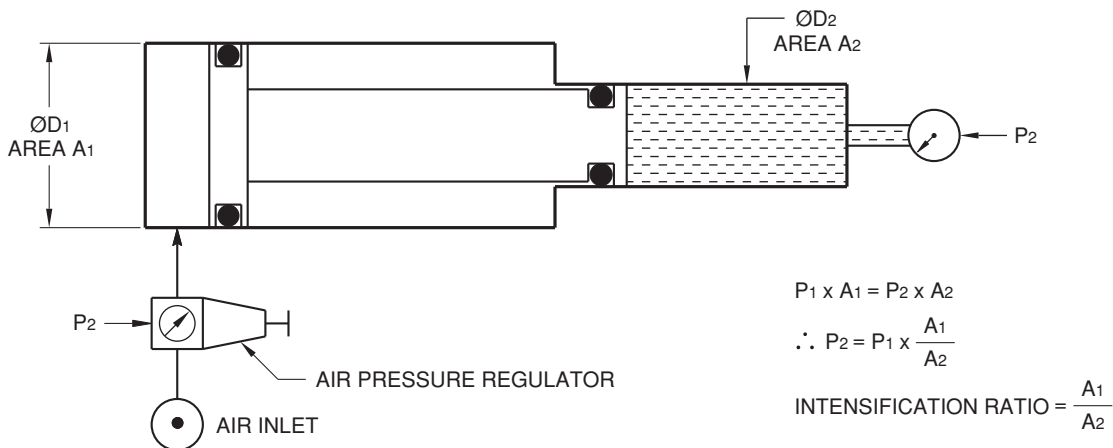
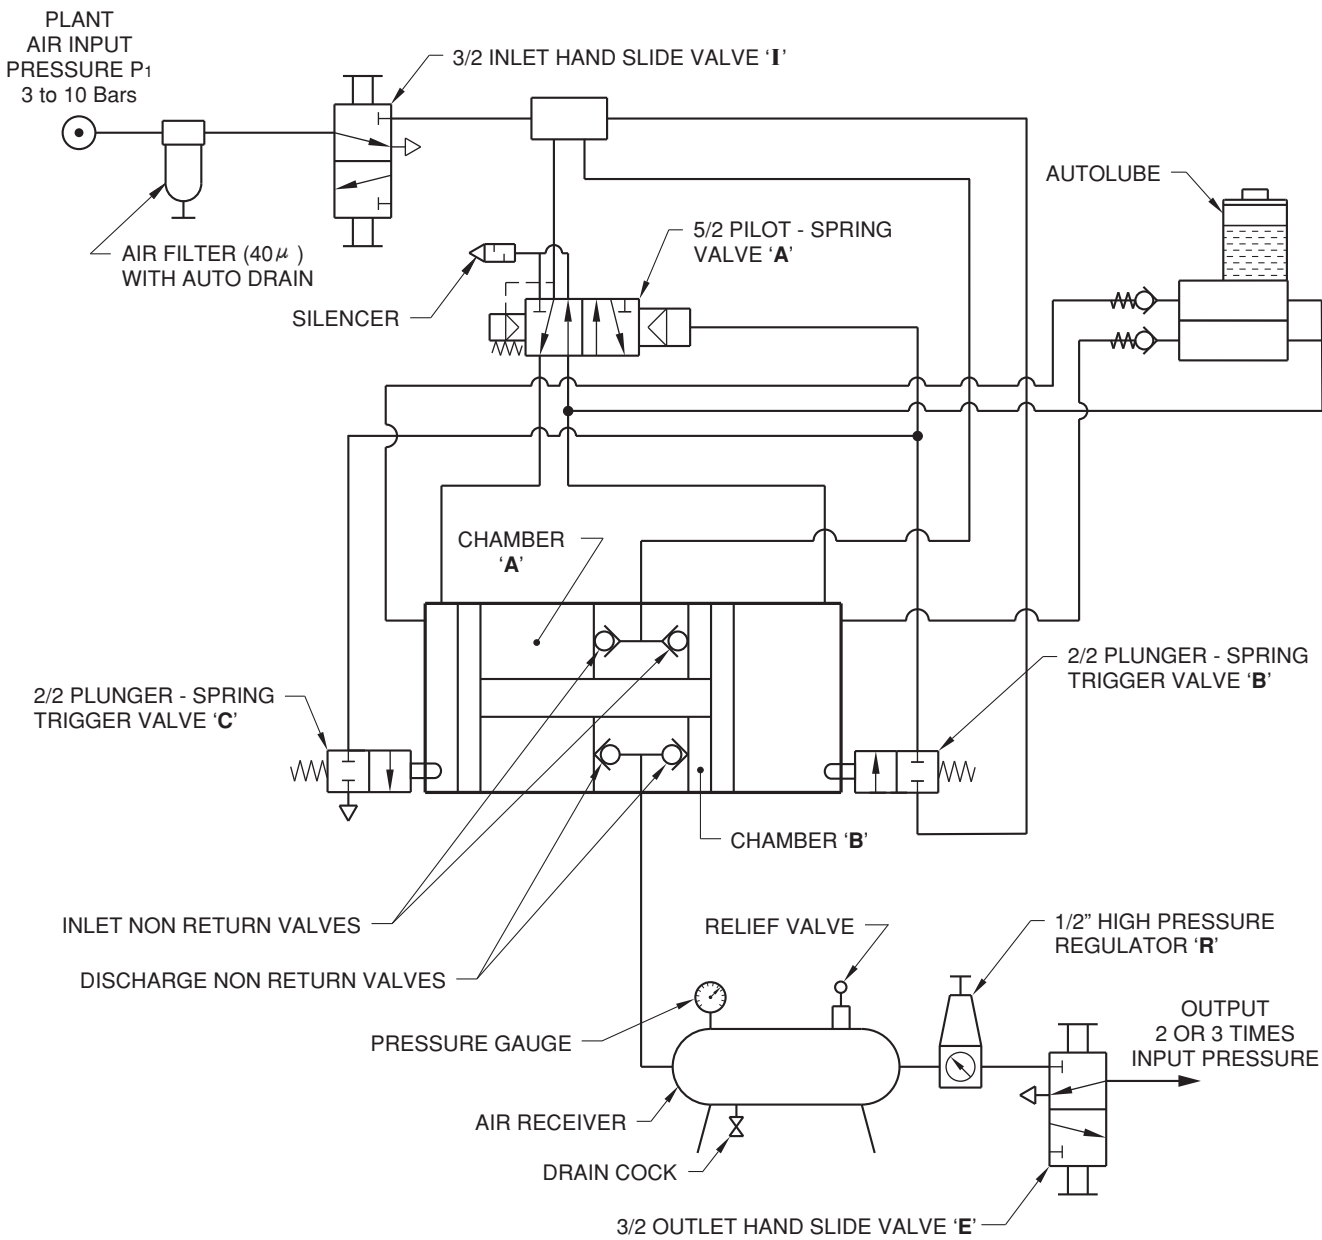

FIG. 2
FIG. 3
4.4.1 The heart of the “**MERCURY**” air booster consists of an air to air intensifier which is diagrammatically shown in **Fig. 2**.
The intensifier shown in **Fig. 2** is converted into an air booster by automatically reciprocating the pneumatic cylinder by suitable valves as shown in **Fig. 3**.